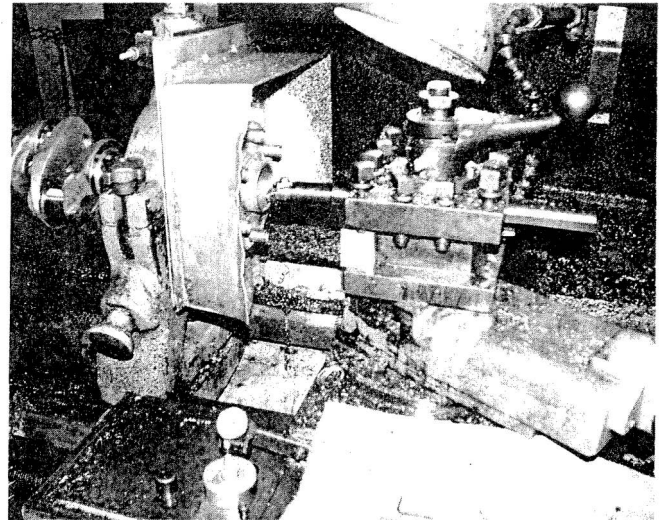

Figure 7-4B.
- d. Secure steady rest on #1 main journal diameter. See figure 7-4B.